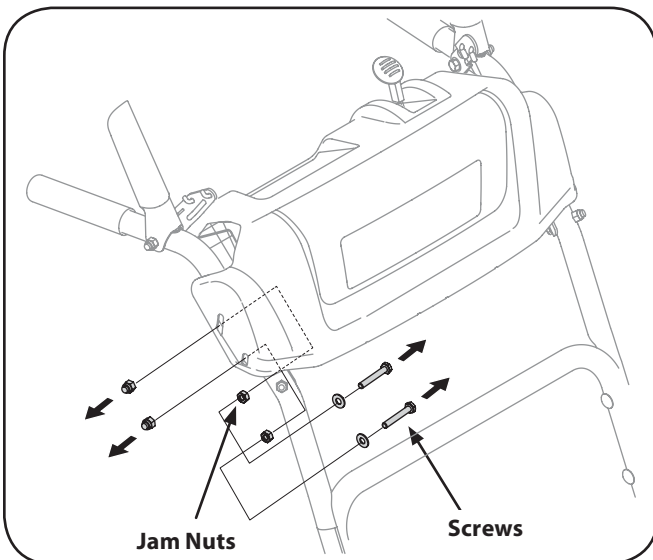

Figure 4
3. Remove the following from the right side of the upper handle. See Fig. 4.